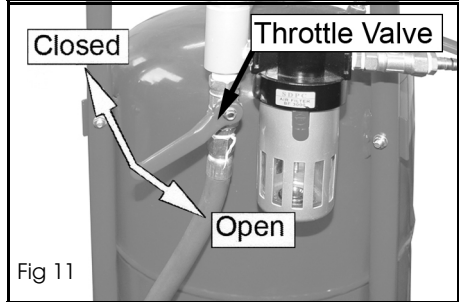

Fig 11
4. Open the throttle valve, Fig 11.